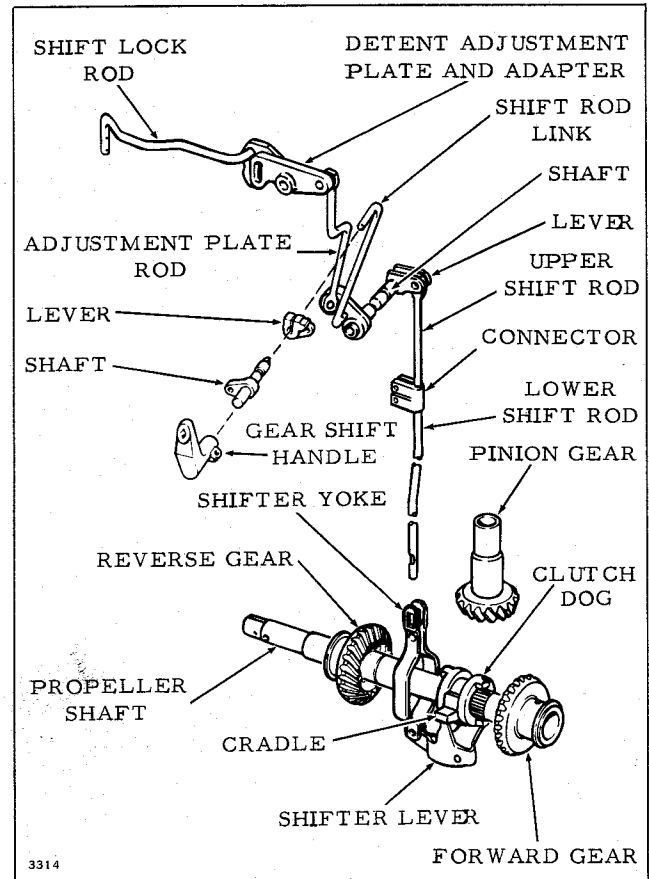

Figure 6-5. Gear Shift Linkage
6. The shift lever linkage to handle on starboard side of lower front motor cover. See Figure 6-5.